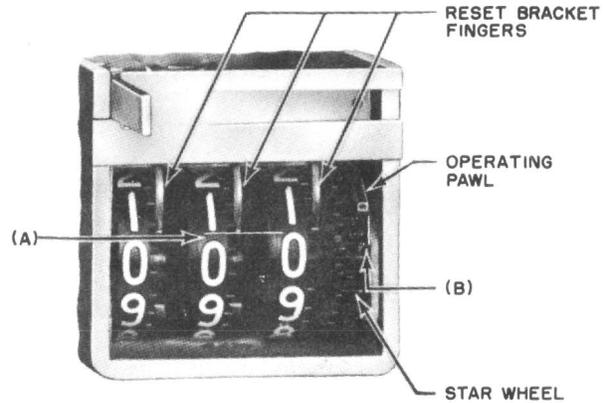

Fig. 2 - Zero Alignment With Number Wheels Held in Reset Position
(b) **Fig. 2 (A)** — With the number wheels held in the reset position by the reset bracket fingers, the top of any zero shall not be out of alignment with the top of any other zero by more than one-half the thickness of the line forming the zero.
(a) **Fig. 2 (B)** — With the endplay in the number wheels taken up to the left and the endplay in the armature taken up to the right, the projection, if any, of the operating pawl over the side of the star wheel shall be